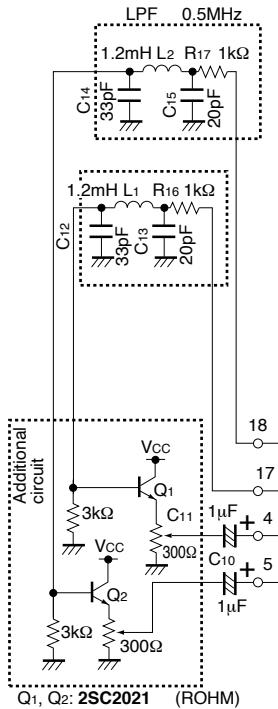

Fig. 15
(2) The VCXO remains in a free-running state except during superimposition.
(4) Pin 4 ( $B-Y_{IN}$ ) and pin 5 ( $R-Y_{IN}$ ) have high impedance and are susceptible to the effects of noise and other external factors during pattern generation. For this reason, we recommend adding the circuit in Fig. 15 to lower the input impedance. Adding this circuit can also reduce carrier leakage.